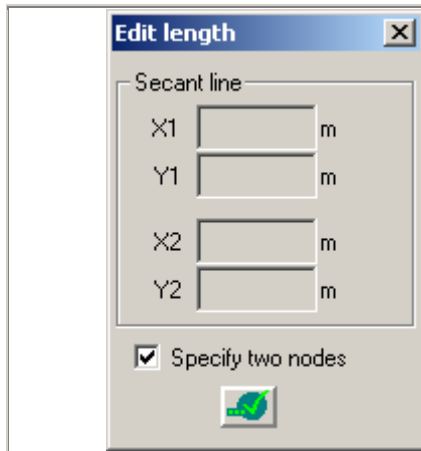

Figure 1.5.13 Specified nodes
- ⇒ In the **Edit length** dialog box (see Fig.1.5.13), define the following parameters: